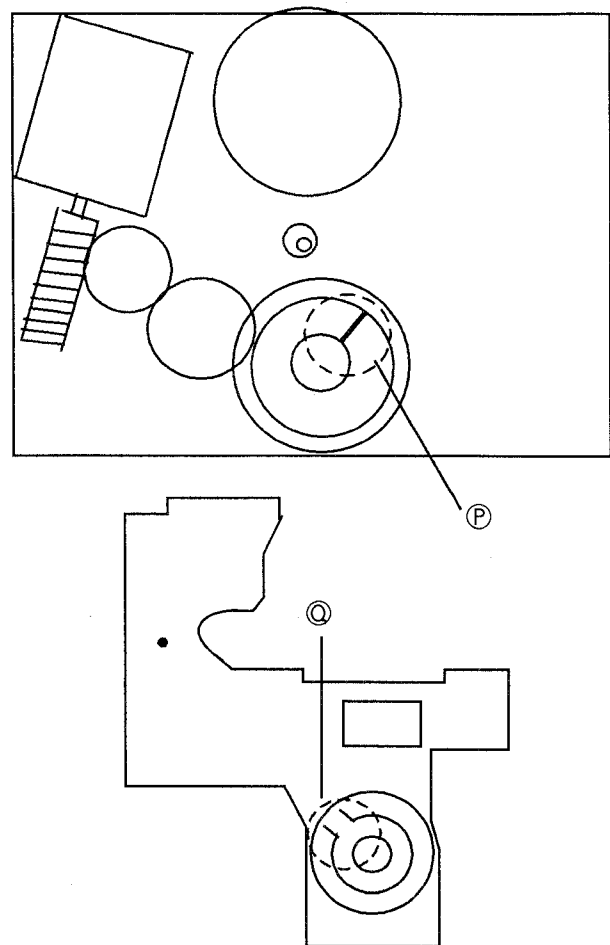

Fig. 11 Gear position
- (1) Remove the flywheels.
- (2) Release the hook fixing the cam switch PC Board and remove the PC Board.
- * When installing the cam switch PC Board, assemble the PC Board so that the part \textcircled{P} meets part \textcircled{Q} . Fig. 11